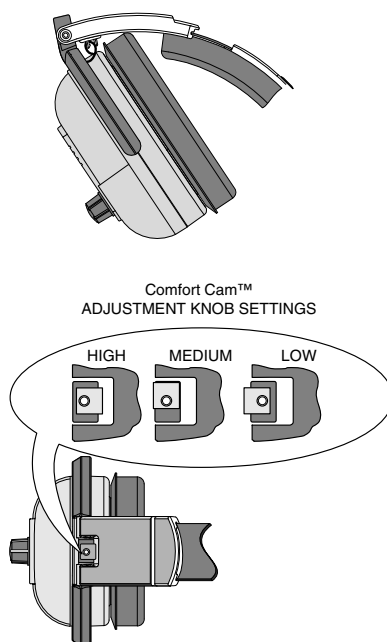

FIGURE 3. Headband Pressure Adjustment
2. Fold the **earcup inward**, as shown in (Figure 3).